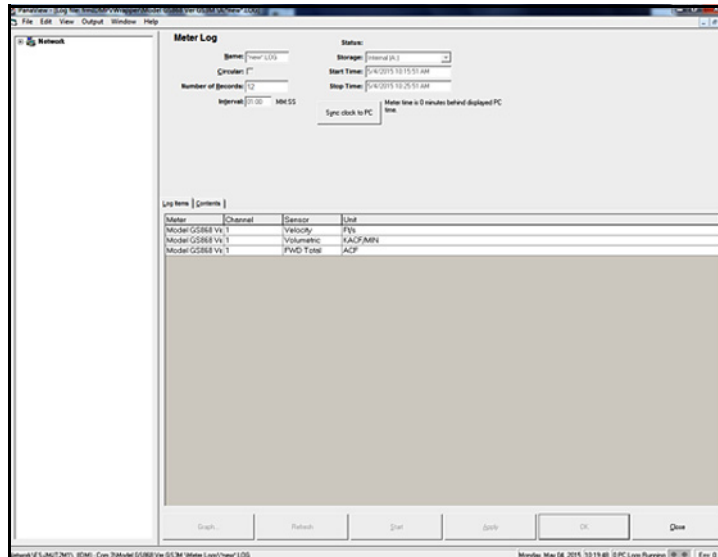

Figure 78: The Meter Log Window
3. At the “Meter Log” window shown in *Figure 78* below, the following log specifications may be entered:
- Click “Log Items” tab (see Figure 78 on page 64) for a list of the parameters specified for logging.
- Click “Contents” tab (see Figure 78 on page 64) for a list of all the data points logged to date for the parameter currently highlighted on the “Log Items” tab.